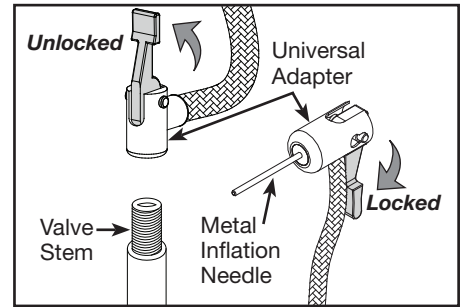

Figure 4 - Lock Universal Adapter Securely
3. When the universal adapter is firmly in place, press the locking lever down (see Figure 4).